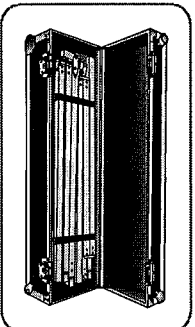
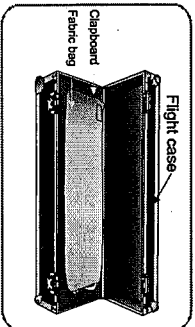

Figure 39
Figure 40
8. Put legs and main frame in the case and fasten them as Figure 39 . Put the accessory bag inside. Place the clipboard in place and put the fabric bag on it (Figure 40).